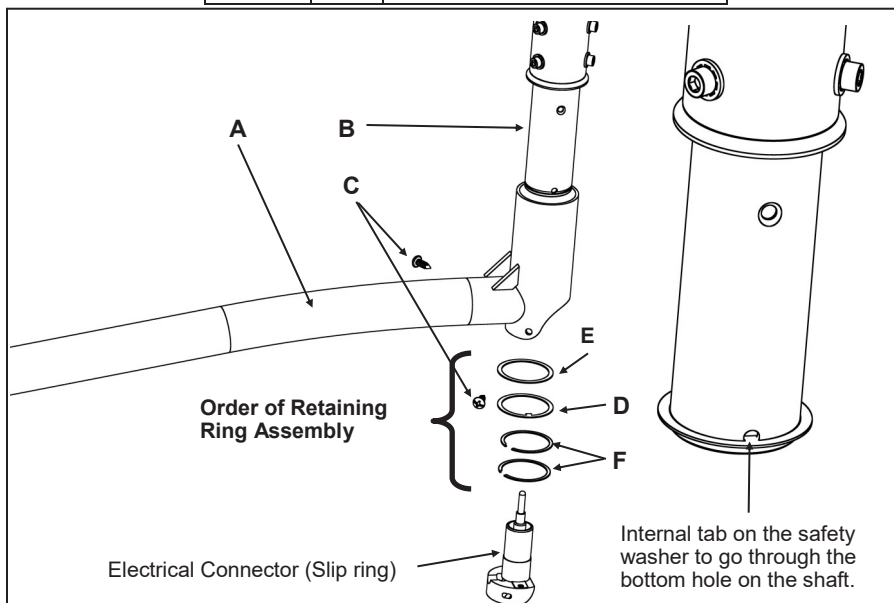

Figure 44: Extension/Spring Arm assembly.
5. Remove the 2 x Retaining Rings, 1 x Safety Washer and 1 x Retaining Ring Washer from the arm's hardware kit. Refer to Figure 44 (D, E and F).
6. Install the retaining ring washer, then install the safety washer with the notch facing into the hole, and finally snap the two retaining rings into the groove. Refer to Figure 44.
| | WARNING: It is critical that the retaining rings and washers be installed in given order per Step 6 and Figure 44. Disregarding this instruction can present the risk of serious or fatal injury. |